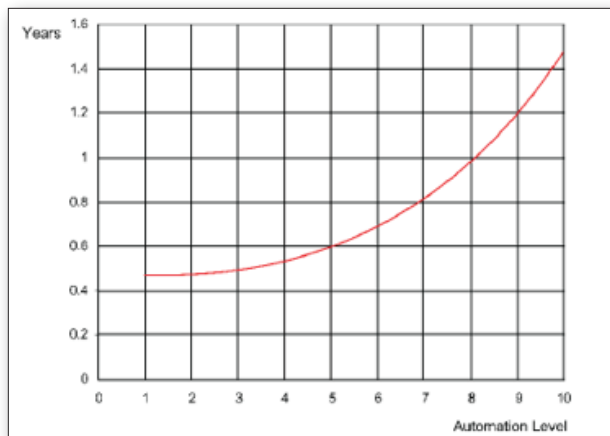

Figure 4.4 Time Required to Move a Sensor on the Perceptual Map 1.0 Unit at Automation Levels 1 Through 10
2. As you raise automation, it becomes increasingly difficult for R&D to reposition products short distances on the Perceptual Map. For example, a project that moves a product 1.0 on the map takes significantly longer at an automation level of 8.0 than at 5.0 (Figure 4.4). Long moves are less affected. You can move a product a long distance at any automation level, but the project will take between 2.5 and 3.0 years to complete.